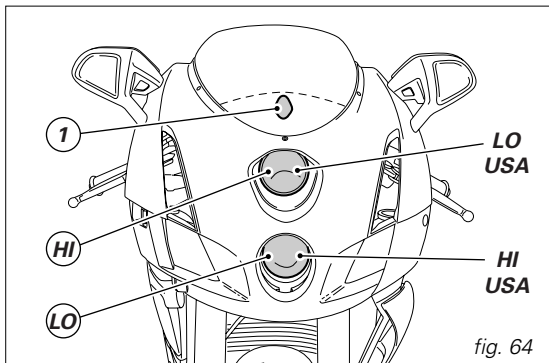

fig. 64
Figure 64 shows the position of the low beam (LO), high beam (HI) and parking light (1) bulbs.